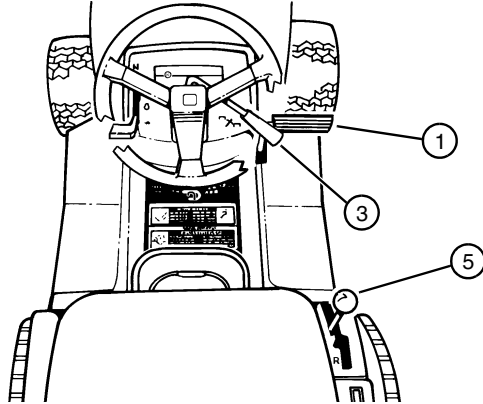

FIG. 14
- To travel forward: unlock park brake, move hydrostatic drive lever (5) to the right and forward. (See FIG. 14) The speed of the tractor is determined by how far forward the drive lever is moved. Return lever to N
- To travel forward: Push clutch/brake pedal (1) all the way forward to brake position. (See FIG. 14)
- First gear (1) – slowest speed/highest power.
- Second gear (2) through fourth gear (4) – general mowing.
- Fifth gear (5) – driving tractor for transport. Make sure the mower deck is raised to the highest position and the mower blade is disengaged.
- Reverse (R) – backing to avoid objects.
- Move shift lever (5) to the right and forward to desired forward position.